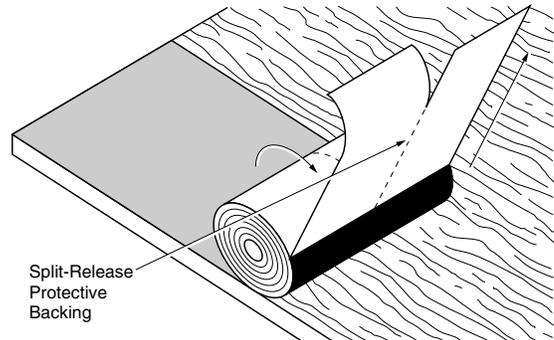

Figure 9-5: Application using the "Roll-Out" Method.
7. Beginning with the already peeled release film, continue to peel both sections of film from the roll, pulling the roll parallel to the eaves (*Figure 9-5*). Be sure the WinterGuard lays flat and is sticking well.